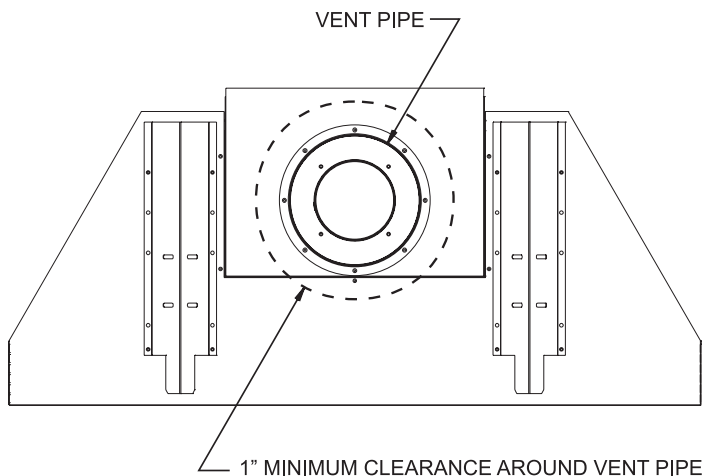

Figure 22
**NOTICE:** Maintain one inch of clearance to combustibles around vertical vent pipe. See **Figure 22**. For horizontal vent systems, maintain a minimum 1-inch clearance from the bottom and sides of the vent to combustibles and a 3-inch clearance above the vent pipe above the vent pipe to combustibles. See **Figures 23 and 24**.